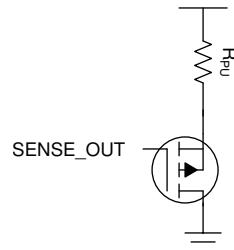

图 8-7. Additional Components for the PG Pin to be Pulled Up to Another Rail
Because the power-good (PG) pin is pulled up internally to the output rail, this pin cannot be pulled up to any voltage or wire AND'd like a typical open-drain PG output can be. If this signal must be pulled up to another logic level then an external circuit can be implemented using a PMOS transistor and a pullup resistor. Implementing the circuit shown in 图 8-7 allows the outputs to be pulled up to any logic rail. If a PMOS transistor is used make sure to pick a transistor with a low threshold voltage as this will determine the output low voltage. This implementation also allows the outputs to be AND'd together like the traditional power-good pins.